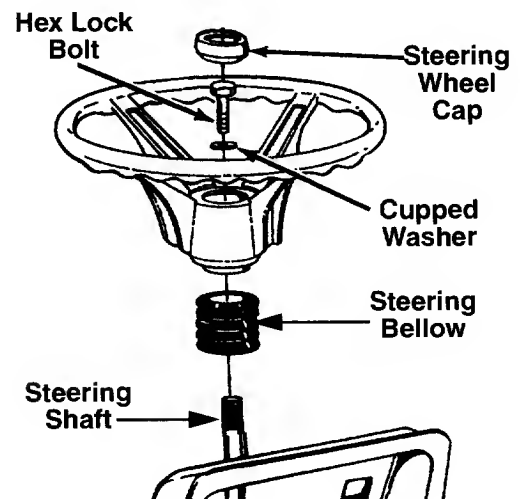

FIGURE 1.
2. Remove the steering bellow from the lift lever on the right hand side of tractor. Place steering bellow over the steering shaft extending through the dash. See figure 1.
4. Place the washer with the cupped side down over the steering shaft. Secure with hex lock bolt. See figure 1.